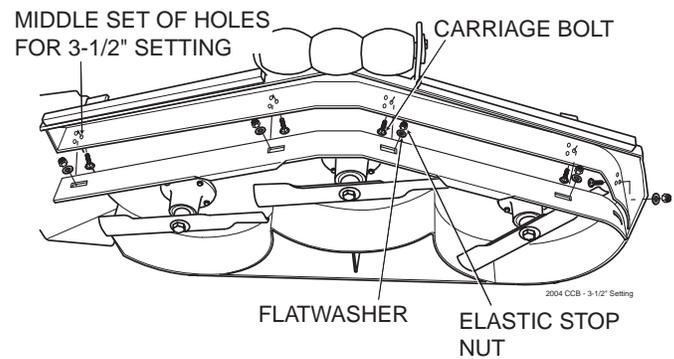

Figure 6-10. 3-1/2" Custom-Cut Baffle Position
- B. 3-1/2" Position (factory setting) - baffle is installed using the middle set of holes on the front baffle welded inside the cutter deck. (See Figure 6-10). For general purpose cutting, place the Custom Cut Baffle in the 3-1/2" position. This gives the best mix of cutting performance in all types of grass.
4. Reinstall the mounting hardware as shown. (See Figures 6-10 through 6-11). Torque hardware to 39ft.lbs.